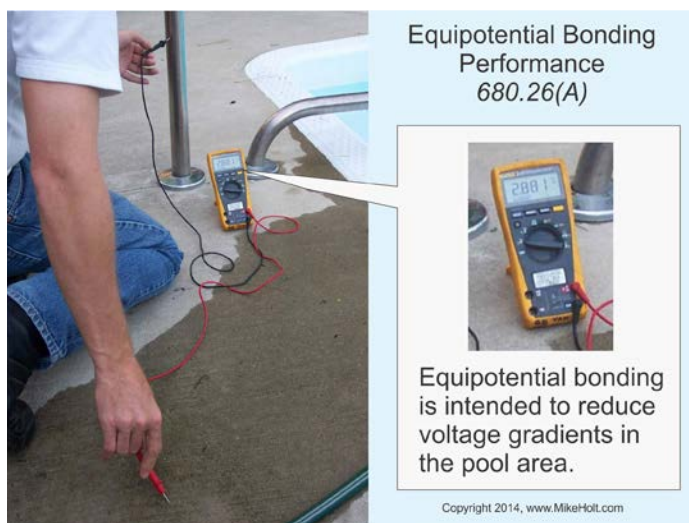

Figure 680–39
(A) Performance. The required equipotential bonding is intended to reduce voltage gradients in the area around a permanently installed pool. Figure 680–39